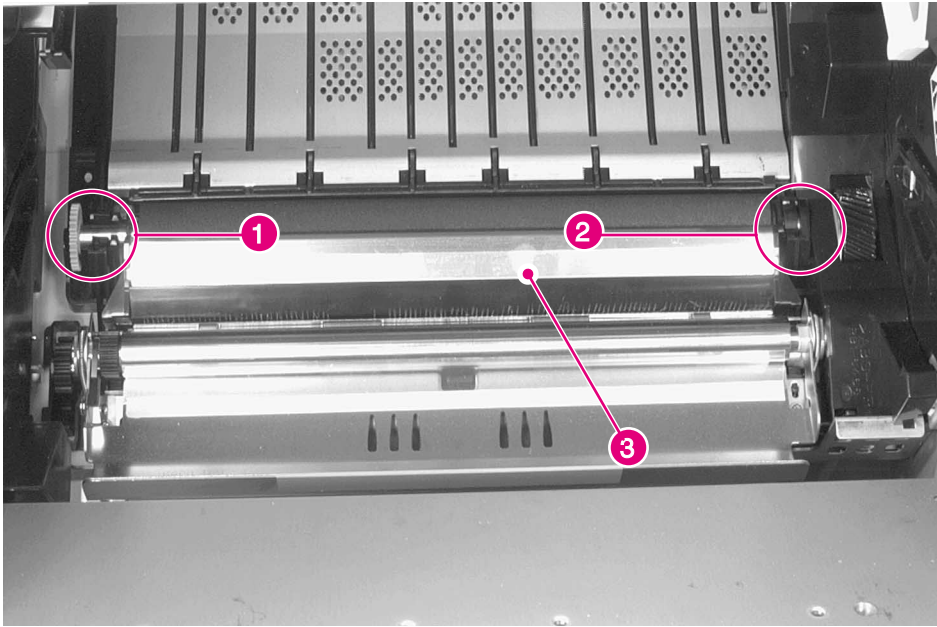

Figure 6-62 Transfer Roller Assembly
- 2 Remove the Transfer Roller Assembly (see figure 6-62 on page 332).
- Transfer Roller (see figure 6-62 on page 332)
- 2 Grasp the gear (figure 6-62, callout 1) on the left end, and carefully lift upward just enough to clear the retainer clip.
- 3 Slide the Transfer Roller Assembly to the left to release the shaft on the right end (figure 6-62, callout 2).
- 2** Hold the Transfer Roller wiper up (figure 6-62, callout 3) and slide the assembly to the right until the gear on the left end is in position.
- 4** Press the Transfer Roller wiper down (figure 6-62, callout 3) until the retaining clips snap into place.